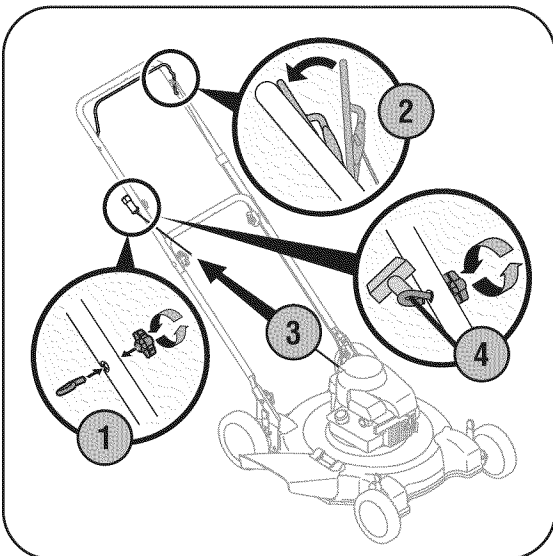

Figure 3-10: Secure the recoil starter.
1. Loosely attach the rope guide to the outside of the upper handle and thread the wing nut only a few turns, Figure 3-10. Do not tighten.
4. Slip the rope through the rope guide as shown in Figure 3-10. Tighten the wing nut to secure the rope guide.